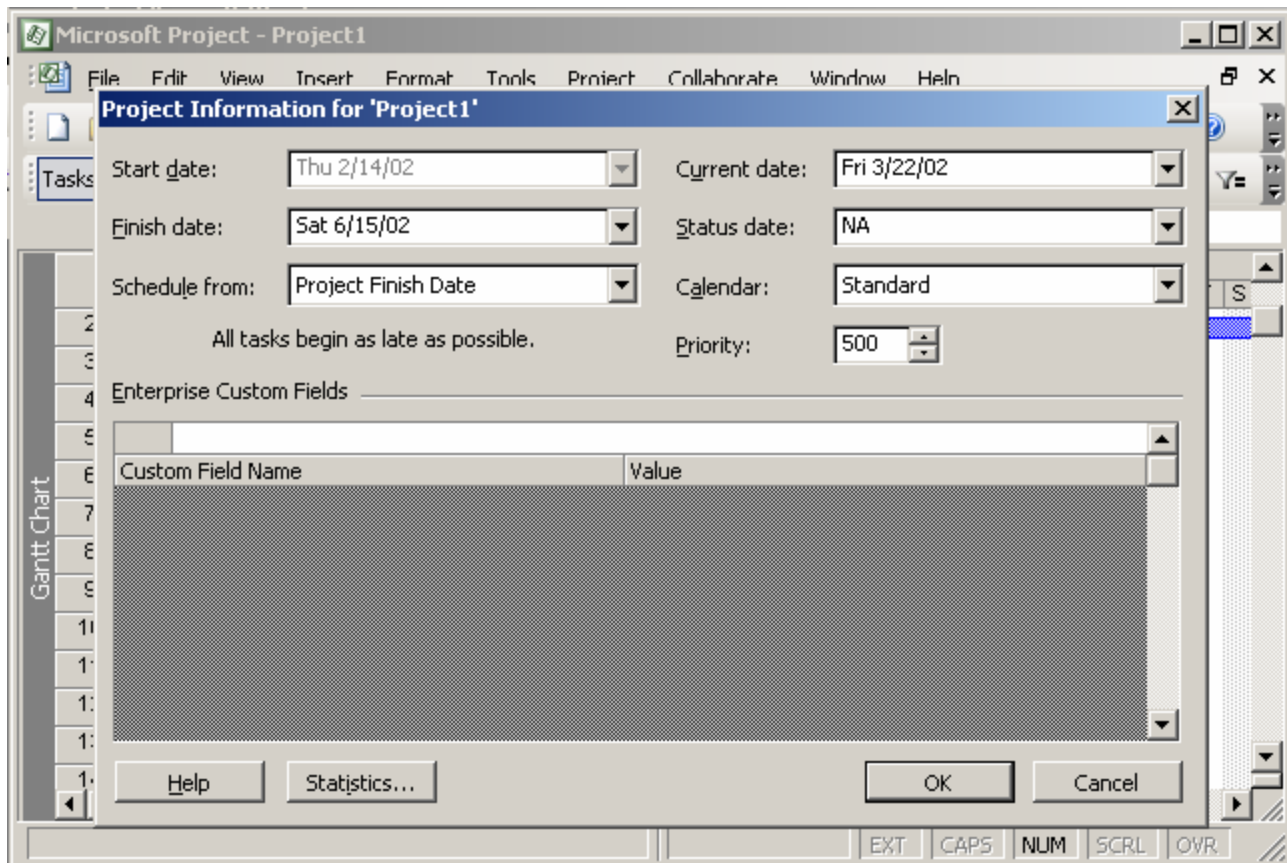

Figure 11.19: Modifying the Plan Duration
5. Click the **Finish date** box, and select June 15 from the calendar of the month June. This step is shown in Figure 11.19.